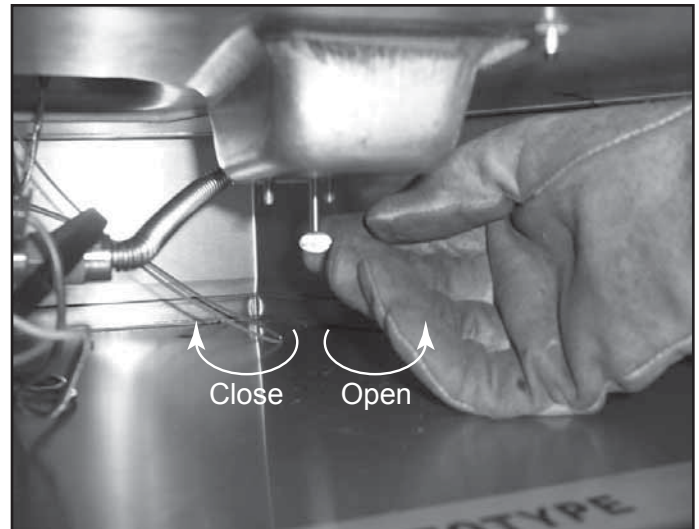

Figure 14.6 Adjusting Air Shutter
- Adjust air shutter for longer vertical runs. See Figure 14.6.